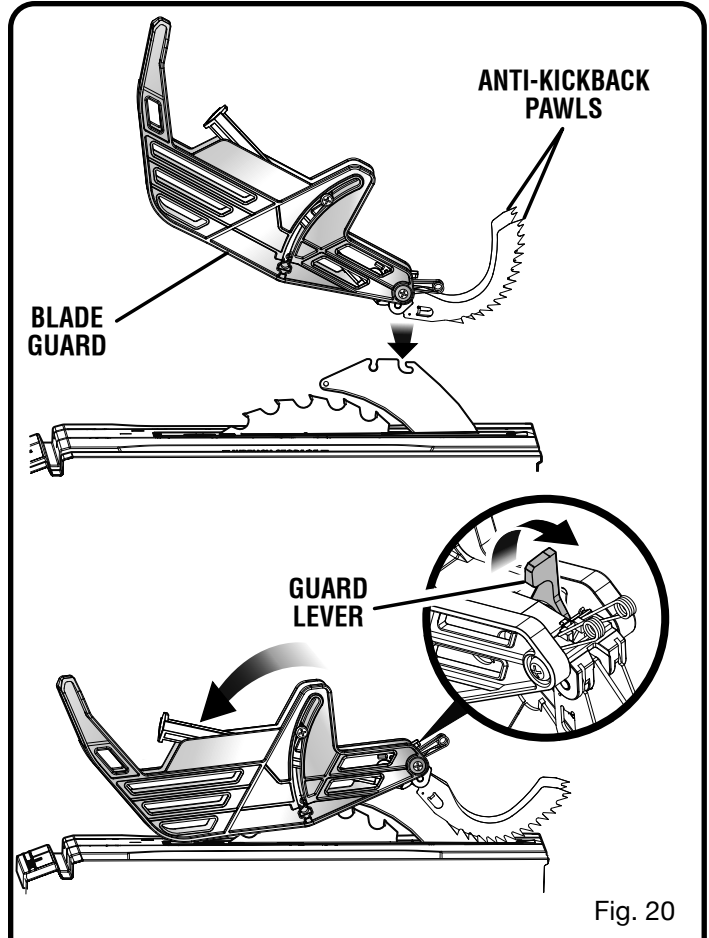

Fig. 20
See Figures 20 - 21.
- With the front of the blade guard raised, lower the back of the guard into the riving knife in the position shown. Push the front of the guard down until the bar inside the guard is **parallel to the table** (see figure 20). If the bar is not parallel to the table, the riving knife is not in the “up” position.